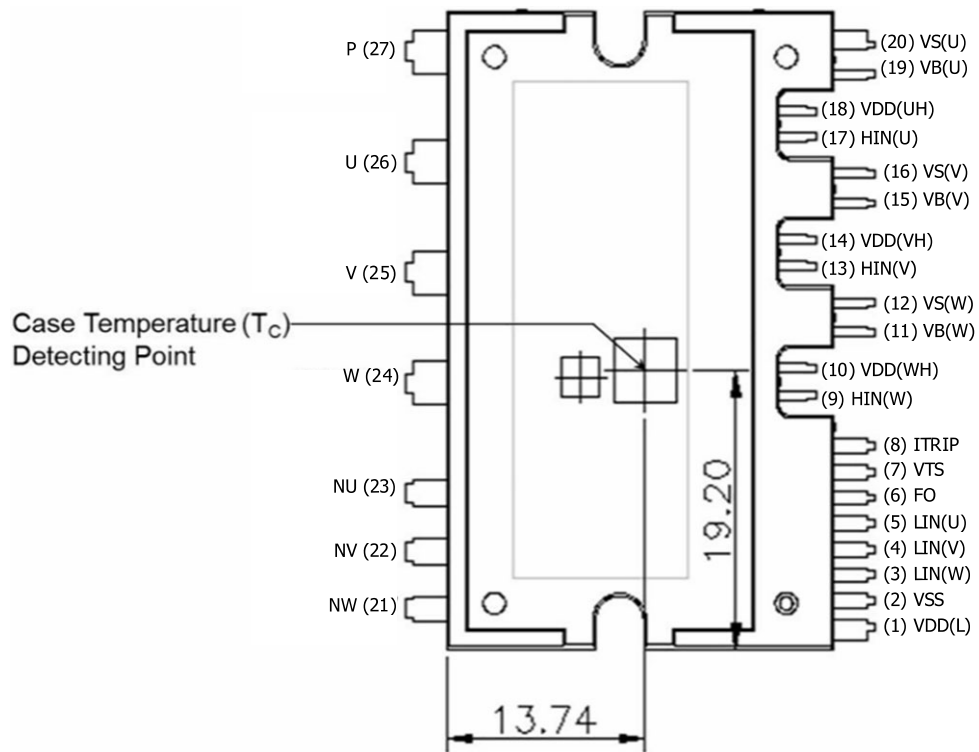

Figure 2. Pin Configuration – Top View
5. For the measurement point of case temperature (T_C), please refer to Figure 2.